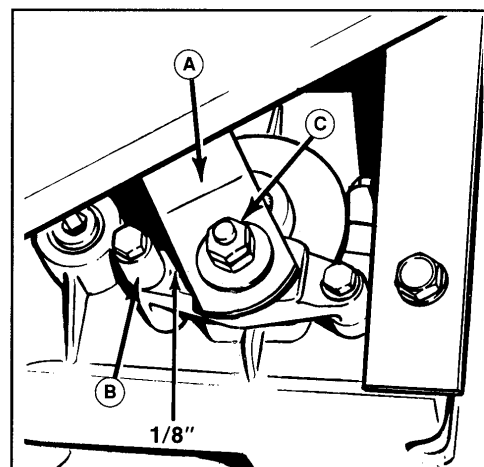

Figure 37. Parking Brake Adjustment (Gear Model)
- b. Push the cam lever (A, figure 37) forward (toward front of tractor) to take out any slack. The gap between lever (A) and stop (B) should be $\frac{1}{8}$ inch (0.3 mm). Use a feeler gauge to measure. If not $\frac{1}{8}$ inch, perform step "c".
- c. Loosen or tighten the adjustment nut (C) to achieve correct dimension. Some models are equipped with two nuts. If so, loosen the outer nut, adjust the inner nut as necessary, then tighten the outer nut.